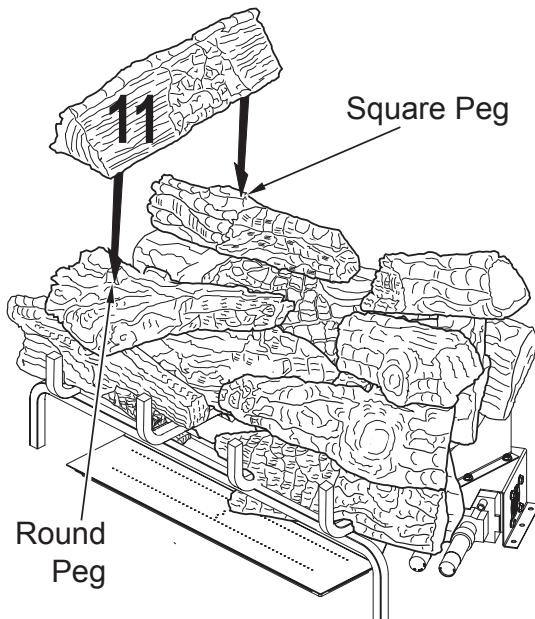

Figure 32 - Installing Log # 11
11. Place the left top log (#11) on top of the left back top log (#5) and left top forked log (#6) as shown in Figure 32, page 19. Match the round peg on the top of the left top forked log (#6) with the round hole on the bottom of the top left log (#11) and rectangular peg on the top of the left back top log (#5) with the rectangular hole on the bottom of the top left log (#11).